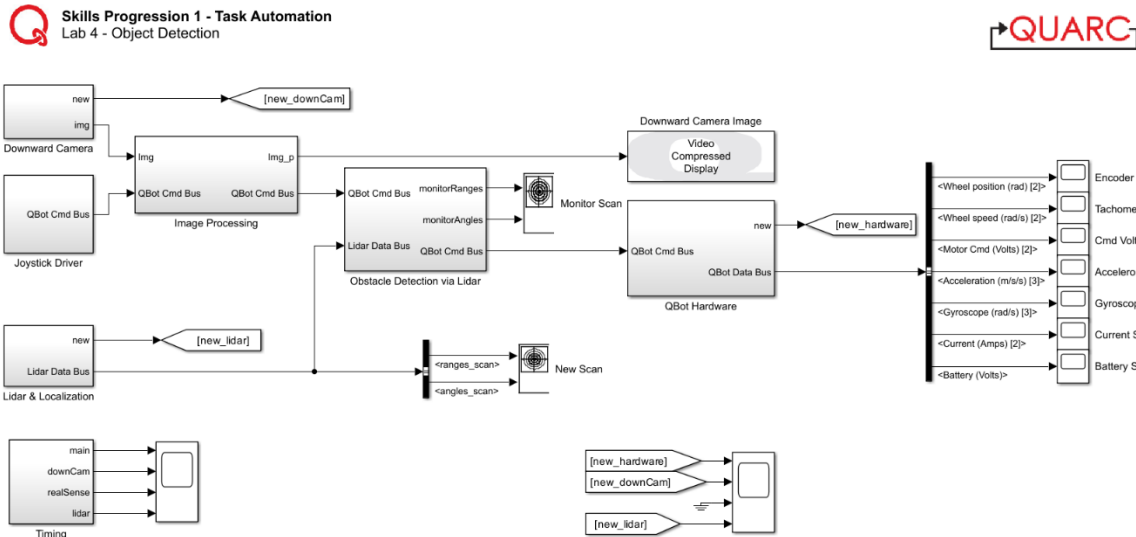

Figure 1. Lab 4 Obstacle Detection Simulink Model
4. Open the Simulink Model obstacle_detection.slx, as shown in Figure 1. Configure the model so that it can be deployed to the QBot Platform: